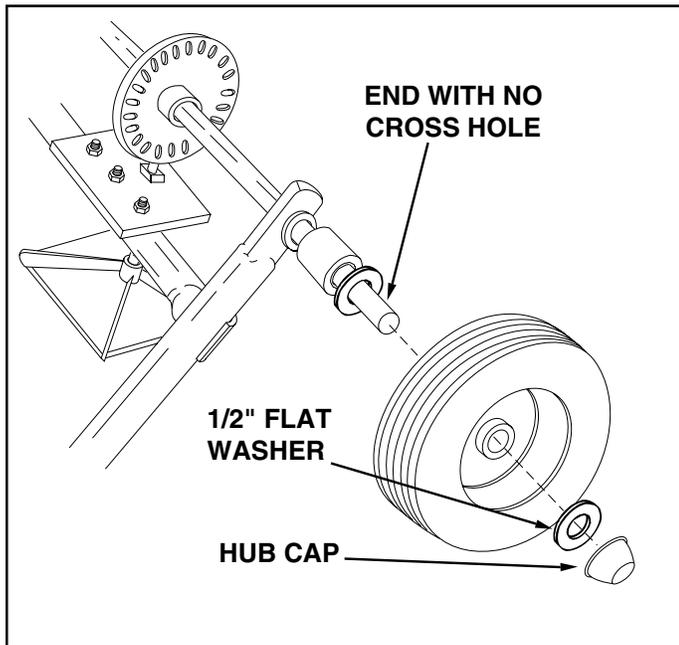

FIGURE 4
9. Place a wheel (long end of hub first) onto the end of the axle that has no cross hole. See figure 4.
10. Place a 1/2" flat washer onto the axle and then lightly tap a hub cap onto the axle until it is snug against the washer and wheel hub. See figure 4.